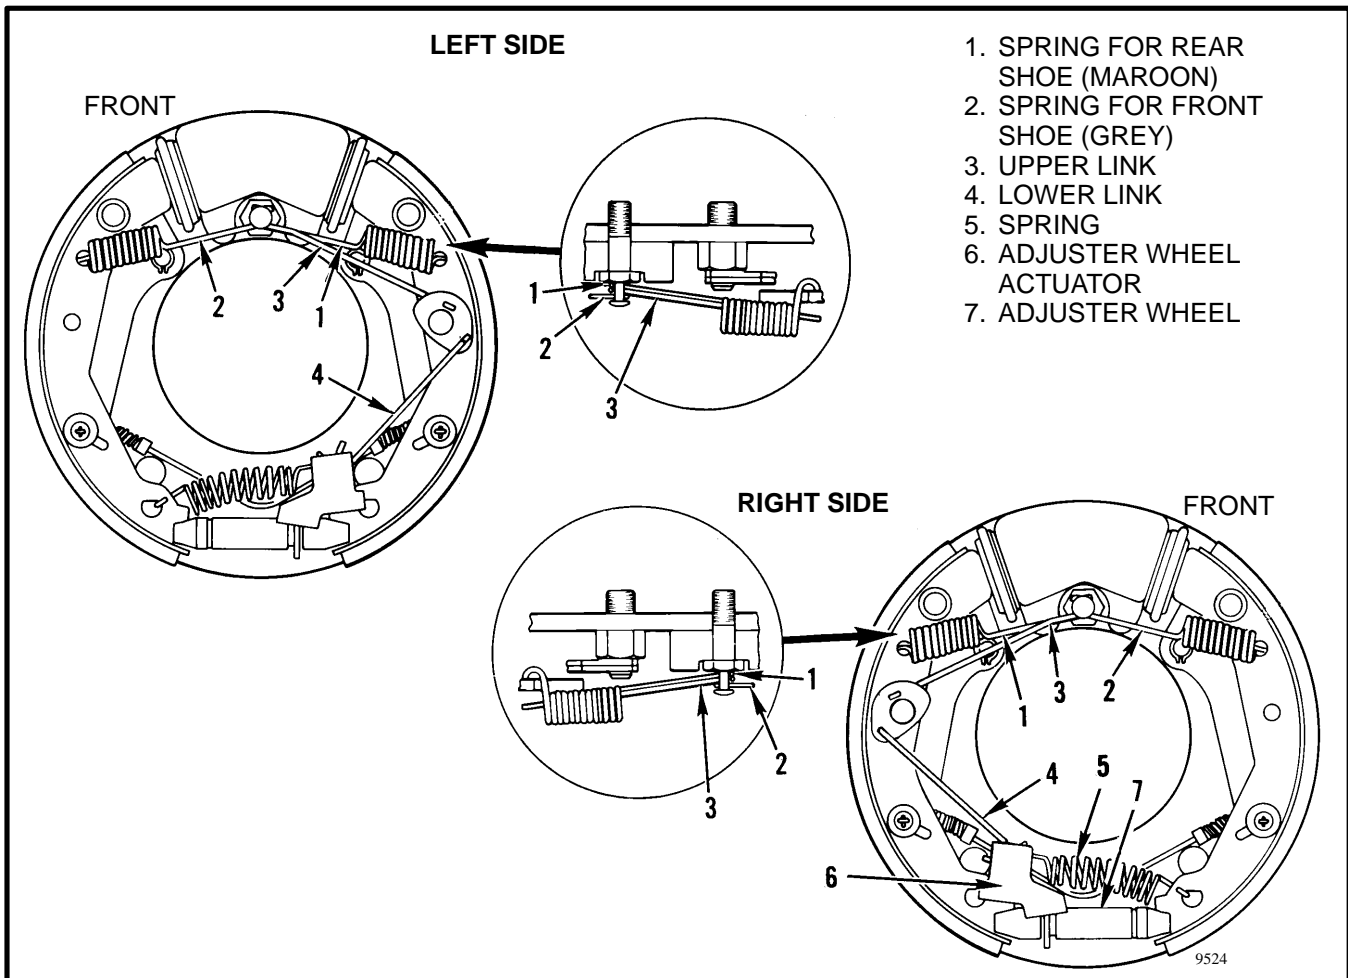

FIGURE 13. INSTALLATION OF THE SPRINGS, E/J2.00-3.00XL (E/J40-60XL)
NOTE: The return springs are not the same. Make sure the springs are installed in the same positions from which they were removed. See FIGURE 13.
8. Install the link in the adjuster wheel actuator. See FIGURE 13. Put the adjuster wheel actuator (7) in the
hole in the brake shoe. Install the spring (6) to the adjuster wheel actuator and the brake shoe. The spring must be installed in the position shown. Install the return springs (1) and (5) for the brake shoes. Make sure the return springs are installed in the correct positions. See FIGURE 13.